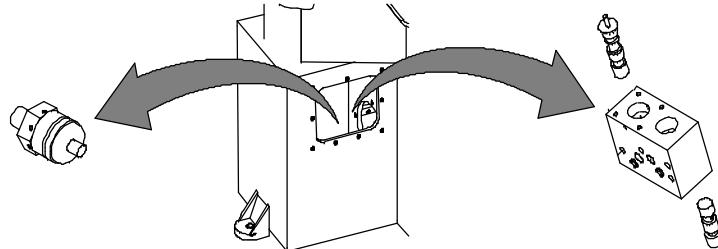

Fig. 25
- a) Check the correct functioning of the hydraulic distributor's valve stems (codes: 01011904 + 01011909, tav. 4-5-6). Check also that there is no dirt preventing good functioning. Check the intervention of the pressure switch (code 02003639, tav. 4-5-6) (Fig. 25).